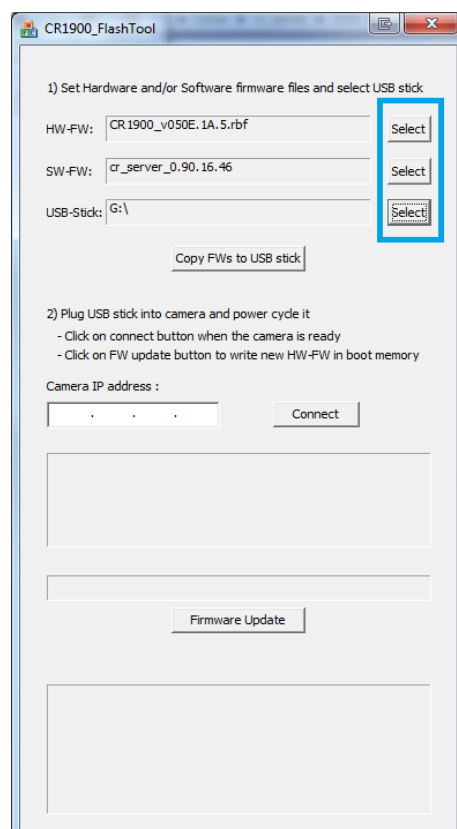

Figure 29: Select files and path
2. Select HW and SW files and USB stick path (see Figure 29).